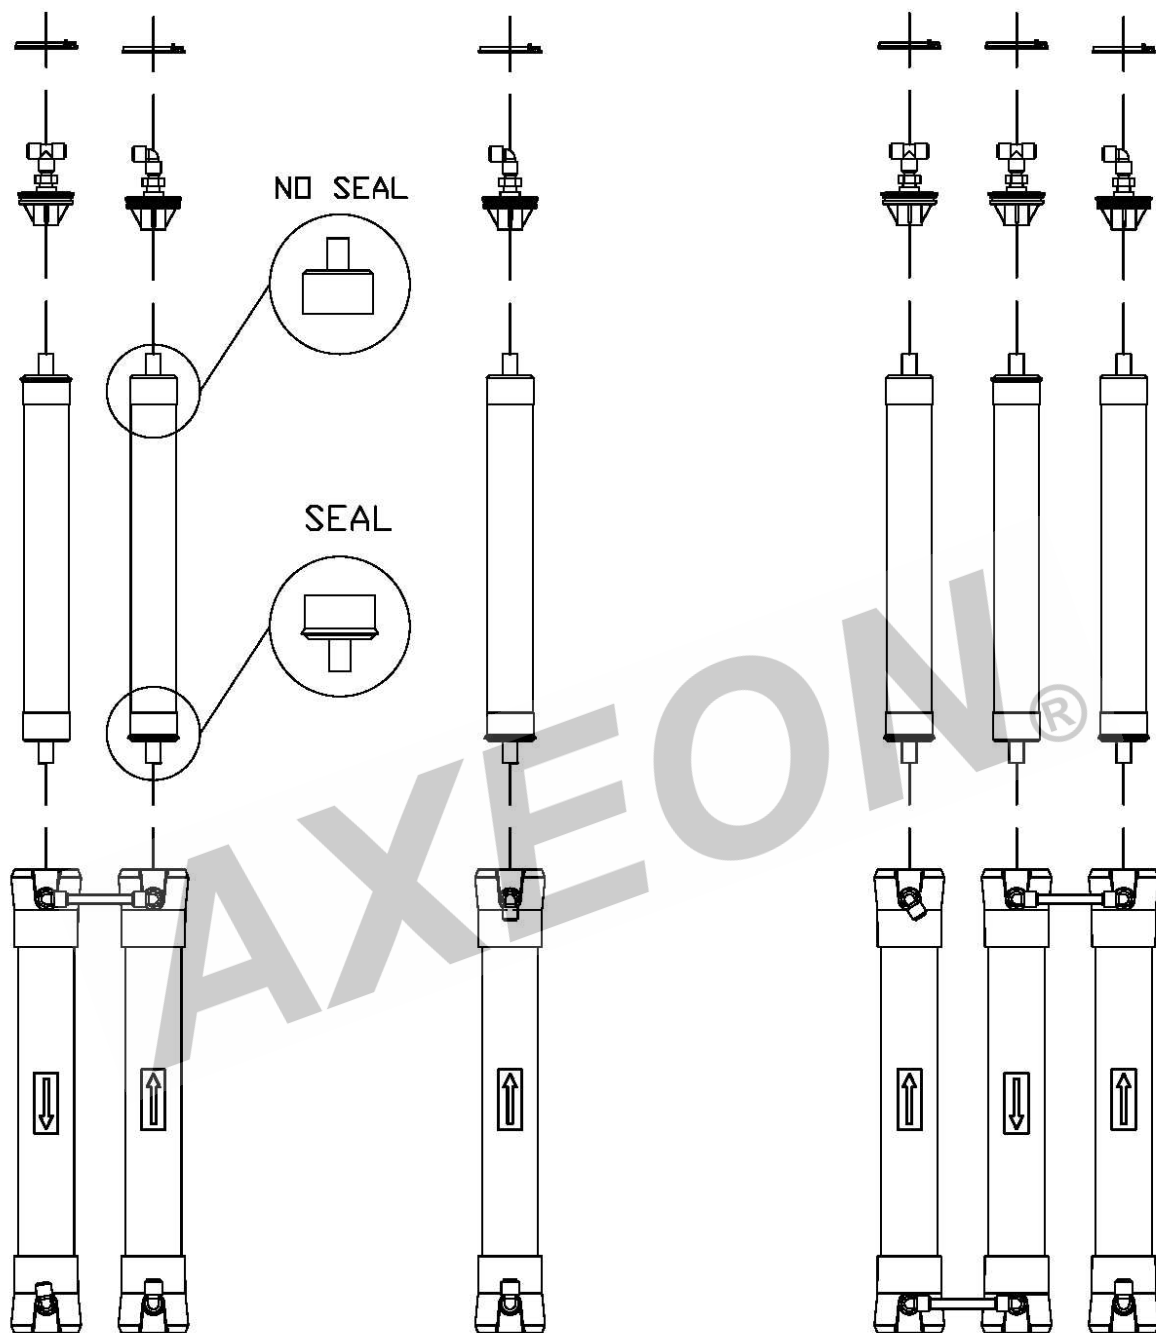

FIGURE 4
5. Flow directions should be observed for installation of each element into each housing. (Figure 4, Page 28)
3. Install the brine seal side of the membrane element first (Figure 4, Page 28). When the housings have a direction of flow from bottom to top, the brine seal should be located at the bottom of the housing.